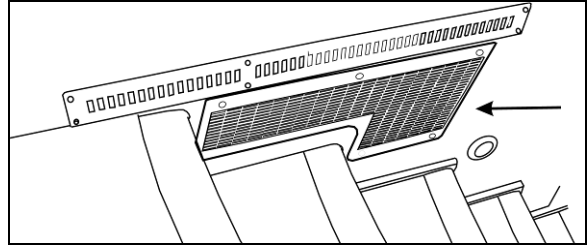
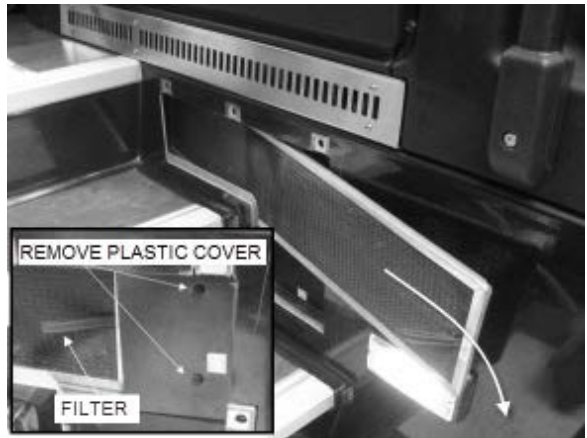

FIGURE 17: R.H CONSOLE AIR FILTER ACCESS GRILL (COACHES) 18505
FIGURE 18: REMOVING DRIVER'S SECTION AIR FILTERS
The driver's unit is located behind the R.H. console panel. To gain access to the air filter, unscrew the R.H. console's grill located in the entrance stepwell. Remove the plastic cover and slide out the recirculating air filter (FIGURE 18).
The driver's HVAC unit is located behind the dashboard's R.H. side panel. To gain access to the A/C filters, unscrew the grille located at the top entrance step (Figure 17). Unscrew the plastic cover and slide out the recirculating air filter (FIGURE 18). Doing so will give you access to the fresh air filter (see item 18, Figure 71).